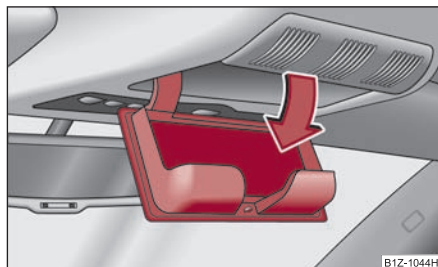

Fig. 110 Detail of the head-liner: Storage compartment for spectacles
- Press on the lid of the stowage compartment, the stowage compartment opens downwards ⇒ fig. 110.